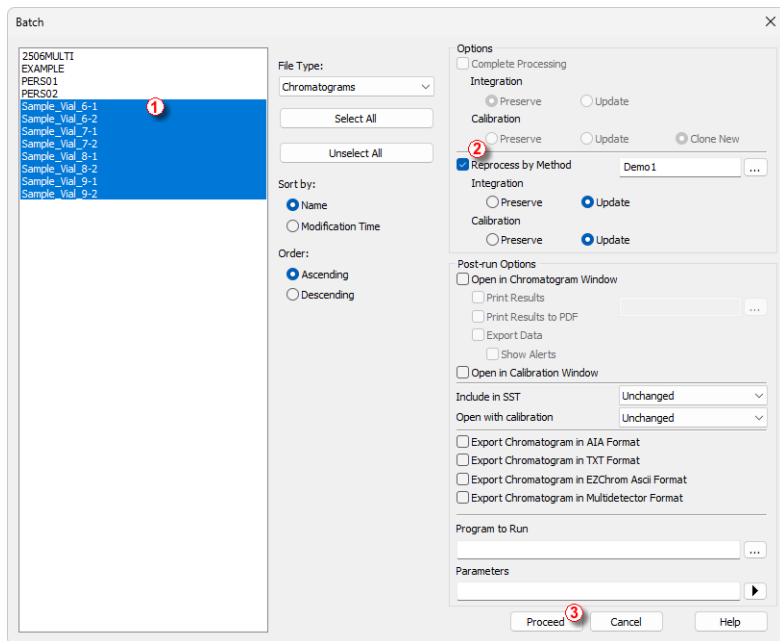

Fig. 19: Batch dialog with selected chromatograms
- Select the files to be reprocessed in the left part of the dialog (Fig. 19 on pg. 32.); multiple files can be selected by left-clicking them while holding the **Ctrl** or **Shift** key. For the demonstration, select all files with the names SAMPLE\_VIAL\_X-Y to be reprocessed.
- Check the *Reprocess by Method* ② checkbox, select the method to be used for the reprocessing (the one that has the correct calibration linked), and in *Calibration* part of the Options select the *Update*.
- Click the *Proceed* ③ button.